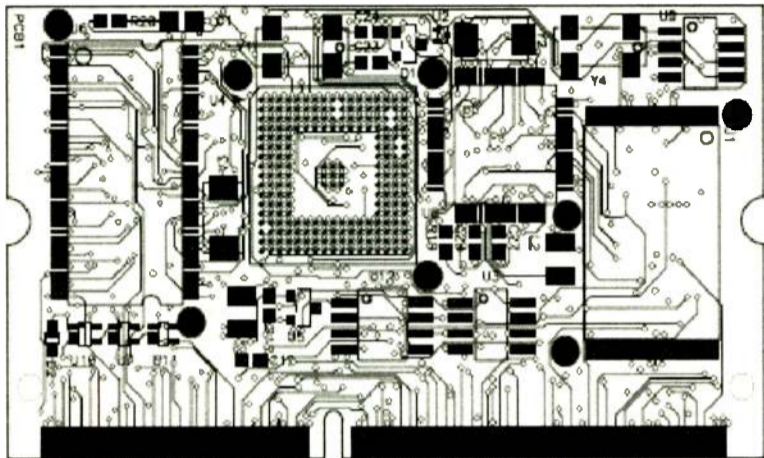

Fig. 2: ARM9-based SODIMM CPU Module
2.6 x 2.3 inches, the compact form factor is deceptively powerful (see Fig. 2).